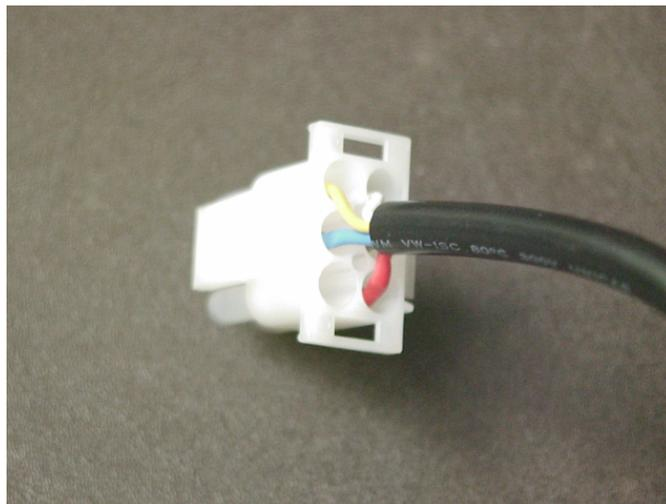

Figure 9. View of Completed Power Supply Connector.
7. Pull the shrink wrap tubing over the wires, as far forward toward the connector as possible. Use a heat gun to shrink the tubing onto the cable, covering up the wires. When complete, the connector should look like that shown in Figure 9.